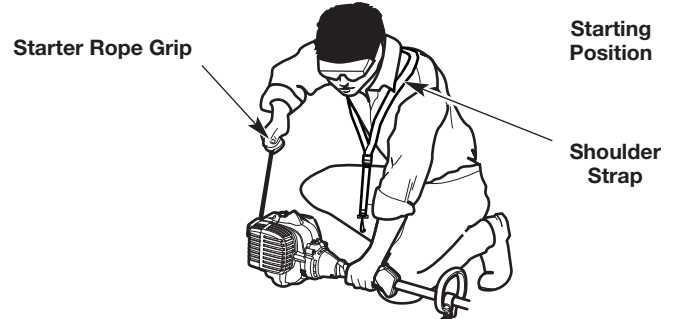

Fig. 21
WARNING: Avoid accidentally starting the unit. To avoid serious injury, the operator and the unit must be in a stable position when pulling the starter rope (Fig. 21).
3. Put the shoulder strap over the operator's head and onto the left shoulder (Fig. 21).
3. Crouch in the starting position (Fig. 21).
5. Pull the starter rope with a controlled and steady motion **5 times** (Fig. 21).